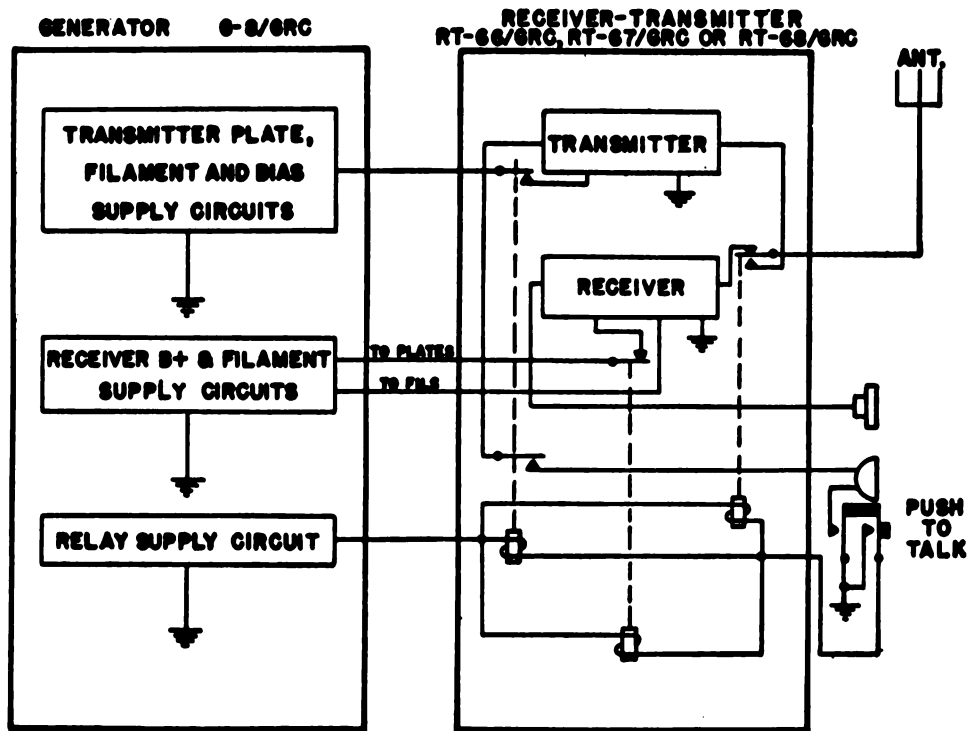
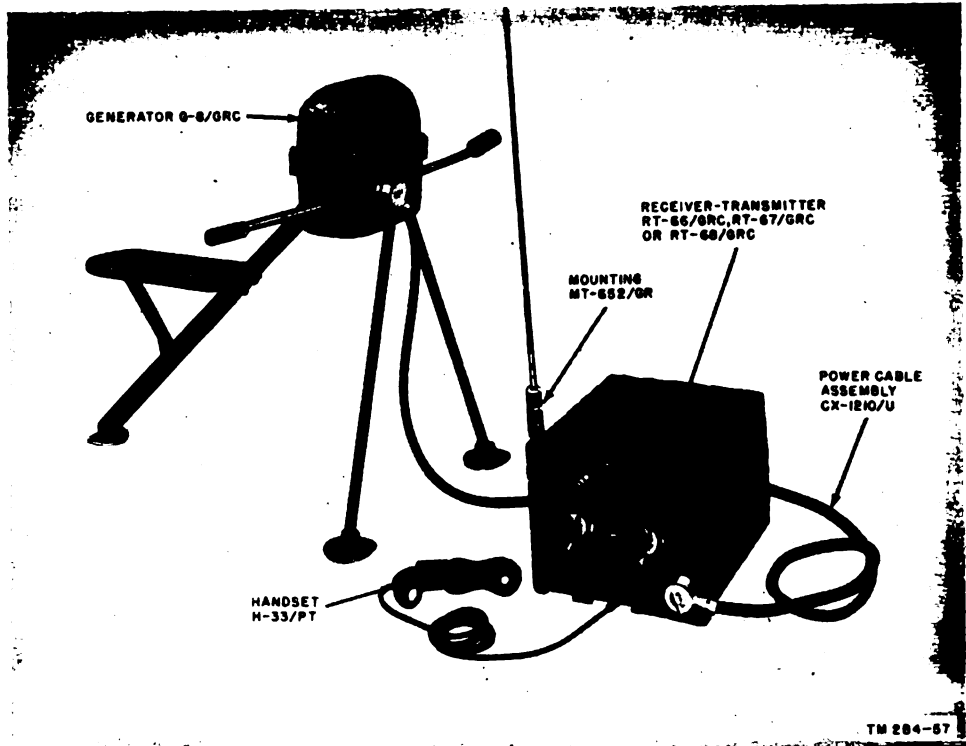

Figure 63. Auxiliary operation of Set 1, block diagram.
Figure 64. Field operation of Set 1 with Generator G-8/GRC.
(fig. 64)
b. Set up the generator and Set 1 as indicated in figure 64. Connect Power Cable Assembly CX-1210/U to the generator and the other end to the POWER IN connector on Set 1. (When Set 1 is used with Generator G-8/GRC alone, the generator supplies all the operating voltages for both the receiver and the transmitter. The block diagram (fig. 63) illustrates the function of the generator.